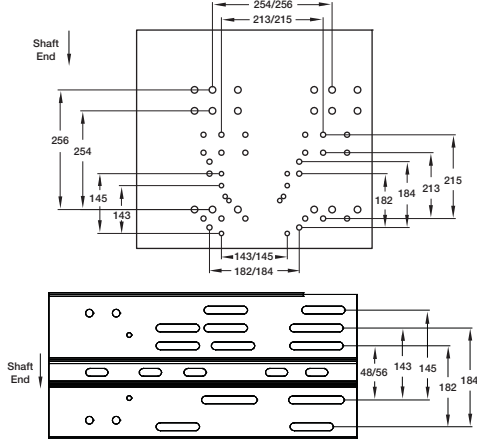

Figure 8 — Motor Mounting Positions Based on Motor Frame Size
- 1. Secure motor to plate using hardware provided. Holes will align when the motor frame (shaft end) is flush with the edge of the motor plate. Motor mounting hardware is included in the hardware kit attached to the drive frame. Refer to Figure 8 for mounting position based on motor frame size. Refer to page 8 for contents of kit.